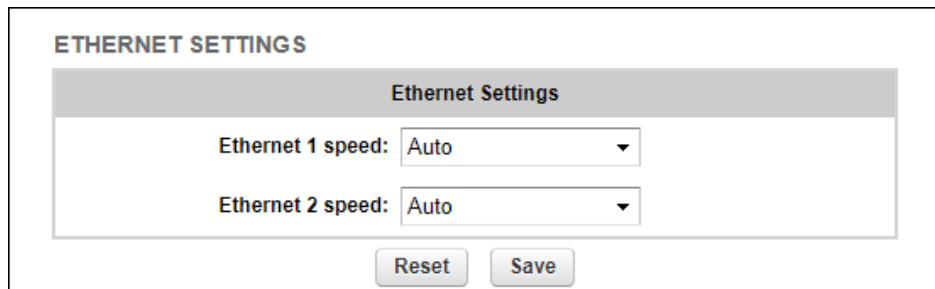

Figure 27. Configurator GUI (Ethernet settings window)
- The **Ethernet Settings** dialog will be shown (Figure 27 \(page 73\)).